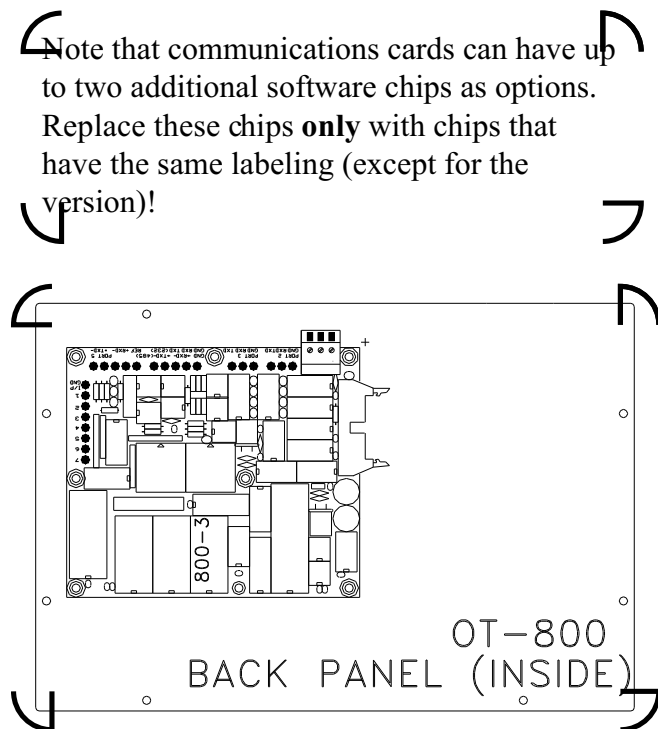

Figure A.7: Communications Circuit Board
- ◆ Using Figure A.7, locate and remove chip 800-3. This chip will be labeled “800-3 Base”.